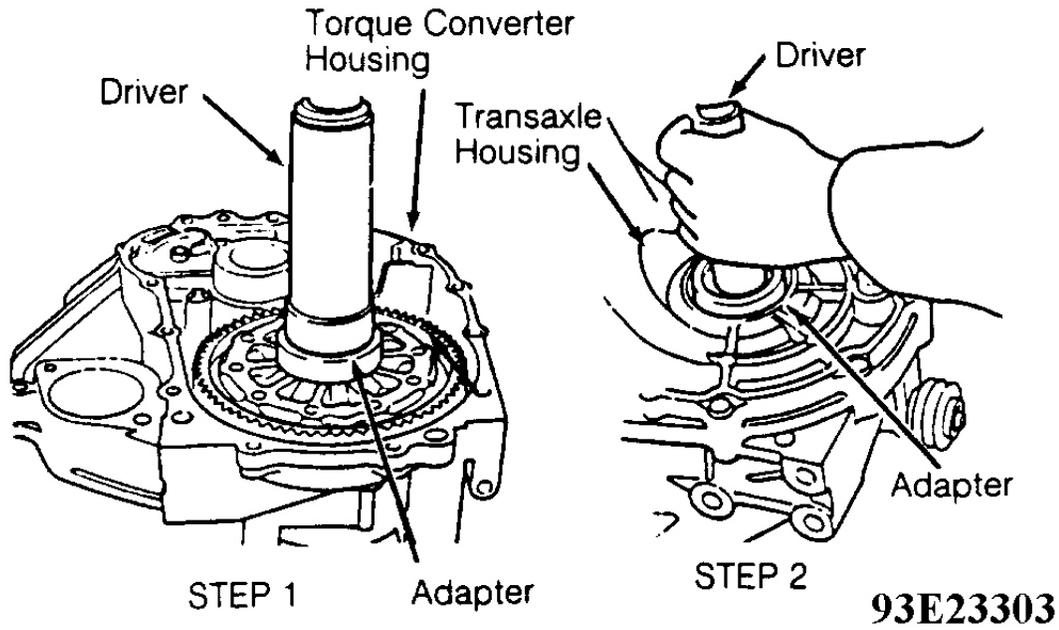

Fig. 29: Installing Differential Assembly
2. Install differential assembly in torque converter housing. Using Driver (07746-0030100) and Adapter (07746-0030400), tap differential assembly into torque converter housing. Perform STEP 1 as shown in **Fig. 29** . Ensure bearing on differential carrier is fully seated on torque converter housing.
- Using Driver (07749-0010000) and Adapter (07947-6340500), tap on transaxle housing side of differential assembly to fully seat the bearings. Perform STEP 2. as shown in **Fig. 29**. Ensure bearings are fully seated in both housings.
24. Install and tighten transaxle housing bolts to specification in sequence. See **Fig. 29** . Use care when installing cable bracket with transaxle housing bolts. DO NOT bend cable bracket.